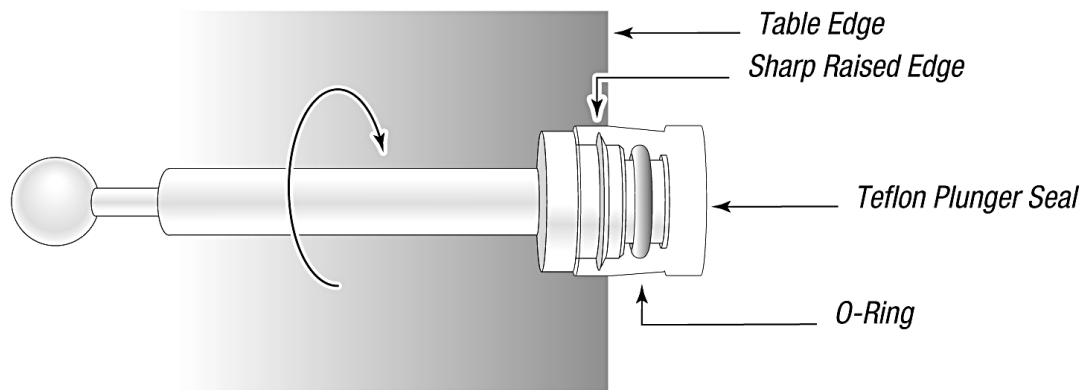

Figure 5-1. Syringe Seal Assembly
- 7 Slowly roll the plunger along the table edge pressing firmly on the portion of the seal below the “O”-ring. See Figure 5-1.